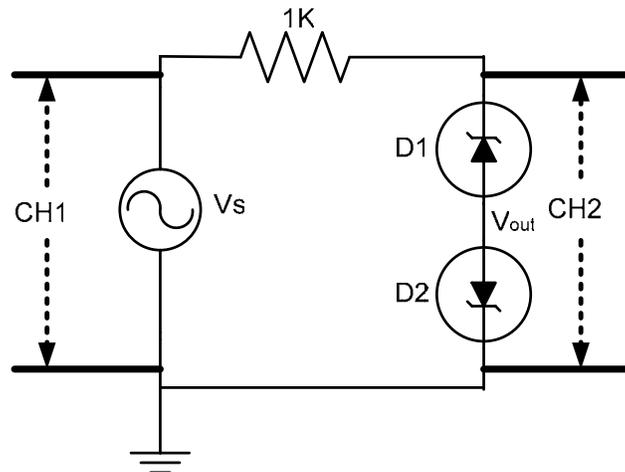

Figure 3
3. For the limiter circuit of Figure 3. Sketch the output for 5kHz input sine wave with 10V (peak) amplitude. Does the output shape change if the input amplitude is decreased to 5V (peak)?
5. Connect the circuit of Figure 3 with similar ($V_Z=3.6V$) zener diodes, Apply a 5 KHz sine wave with 10V (peak) amplitude. Sketch the output and transfer function as observed on the oscilloscope and label the important points. Vary the input amplitude and notice the effect on the output. What is the function of this circuit?
- Q3. For the limiter circuit, draw the circuit in Figure 3, using PSPICE. Follow same procedure used in previous question. Find the voltage output using the probe (show 5-cycles).